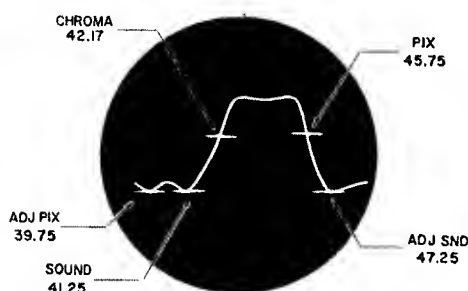

Figure 5.6 Response Curve of Figure 5.5 with Markers Tilted
- 5.3.6 The markers can be tilted to a horizontal position by use of the MARKER DISPLAY switch as shown in Figure 5.6. The MARKER AMPLITUDE control can be adjusted to give the best compromise between vertical and horizontal marker size.